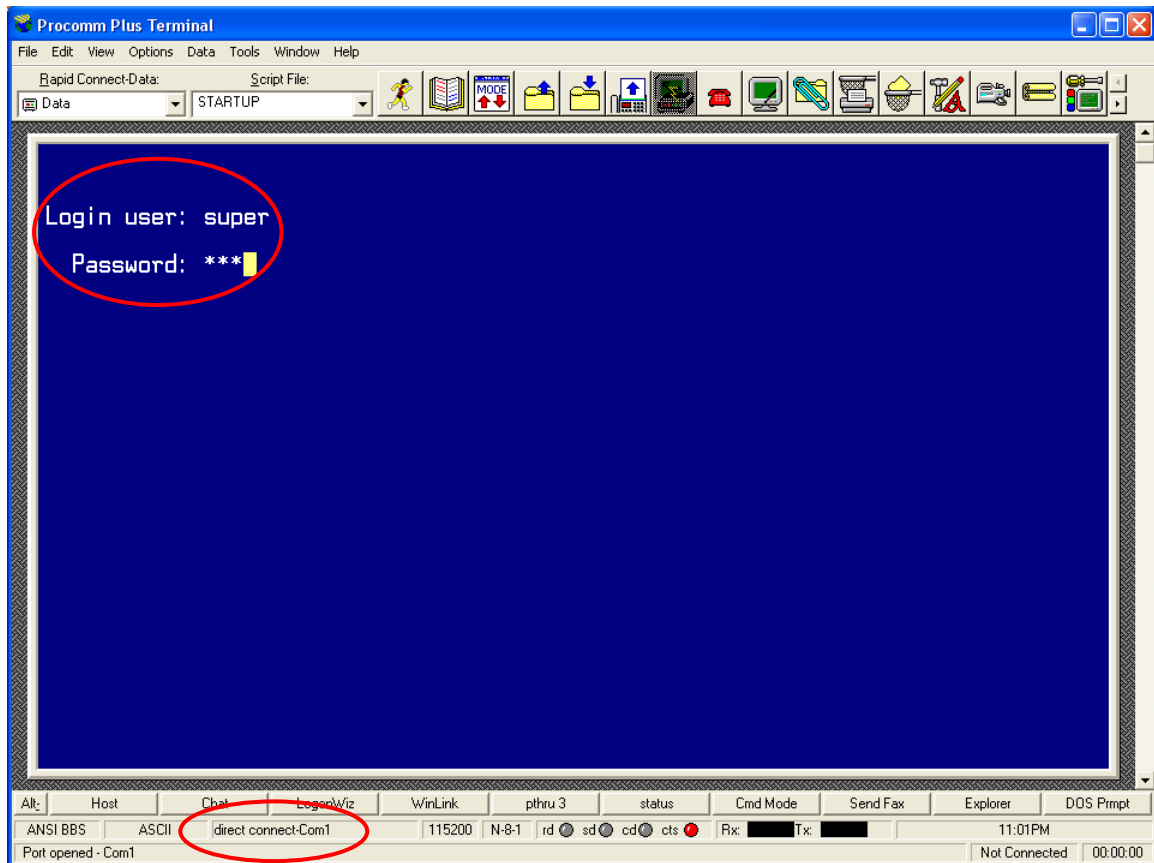

Figure 20
1. Connect the computer to the sensor via an RS232 cable. Start Procomm and set the system to use Direct Connect COM 1 (bottom left of screen) using a baud rate of 115200, 8 bits, no parity and 1 stop bit as shown in fig. 20. If your computer does not have a serial port, select the correct COM port in Procomm for the USB port that has the serial adapter.
2. At the Login prompt, enter the username and password as shown in fig 20.